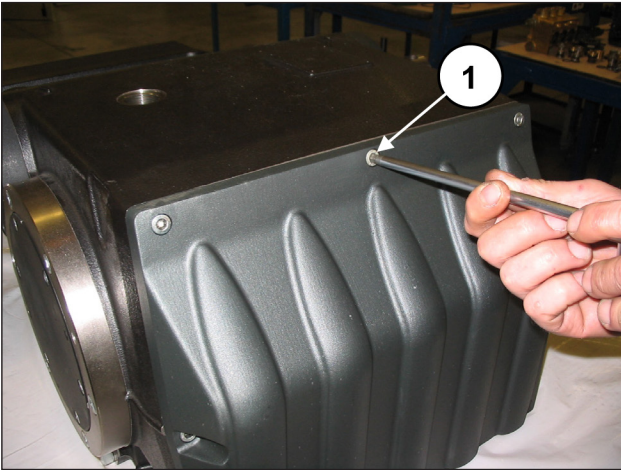

Fig. 10
Unscrew the casing cover attachment screws (pos. ①, Fig. 10) and remove it. Remove the O-ring and replace it if necessary.